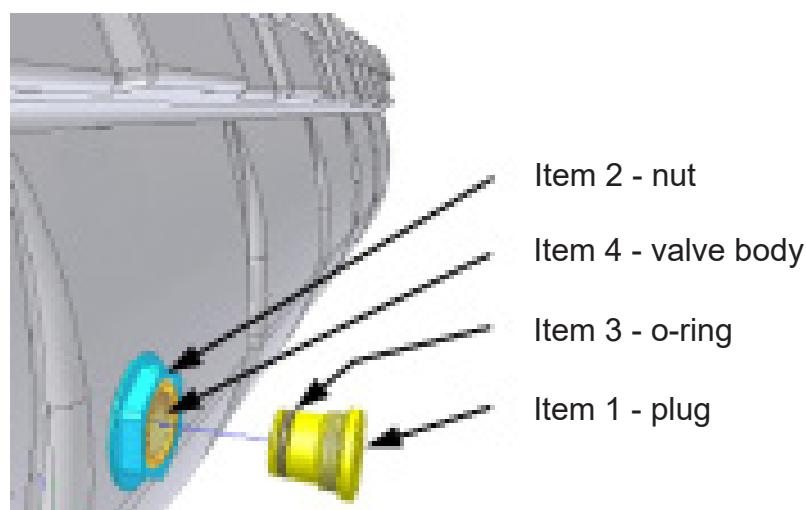

FIGURE A7-28
- 3.3.1 Ensure the nut, (Item 2 FIGURE A7-28), has been torqued correctly. Please refer to Chapter 1, TABLE 1 for correct torque values.
- 3.3.2 Remove Plug, (Item 1 FIGURE A7-28), using the correct tool and a suitable 3/8" square drive wrench.
- 3.3.10 Fit the plug provided with the H-Pack (Item 1 FIGURE A7-28). Torque plug into vacuum valve body, using the correct tool and a calibrated 3/8" square drive torque wrench. Ensure that silicone grease does not come into contact with any threadforms on the plug or vacuum valve body.
NOTE: The plug supplied with H-Pack has an integral O-ring (Item 3 FIGURE A7-28). Silicone grease is already provided on the O-ring. This is sufficient for re-fitting the plug directly, provided the plug has been kept free of contaminants and grease provided hasn't been wiped off. If in any doubt, remove the O-ring using a suitable non-sharp implement and discard. Clean the plug using a clean lint-free cloth and refit a new O-ring coated liberally with silicone grease.